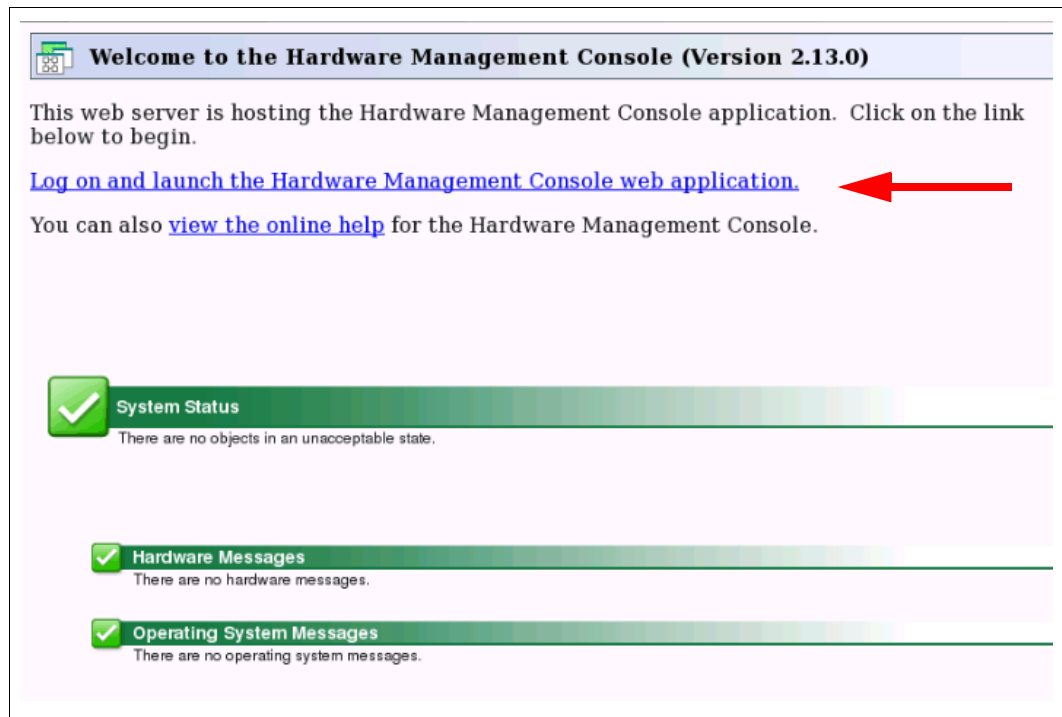

Figure 4-5 HMC Welcome window
1. In the HMC Welcome window (as shown in Figure 4-5 on page 29), select **Log on and launch the Hardware Management Console web application**.